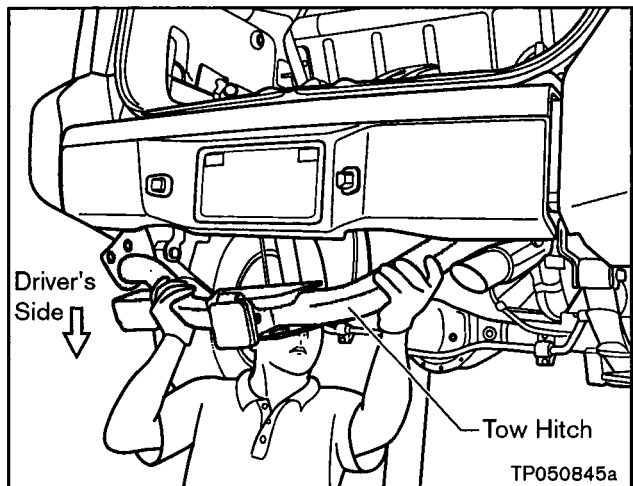

Figure A6
7. Remove the Tow Hitch from the vehicle (see Figure A6).